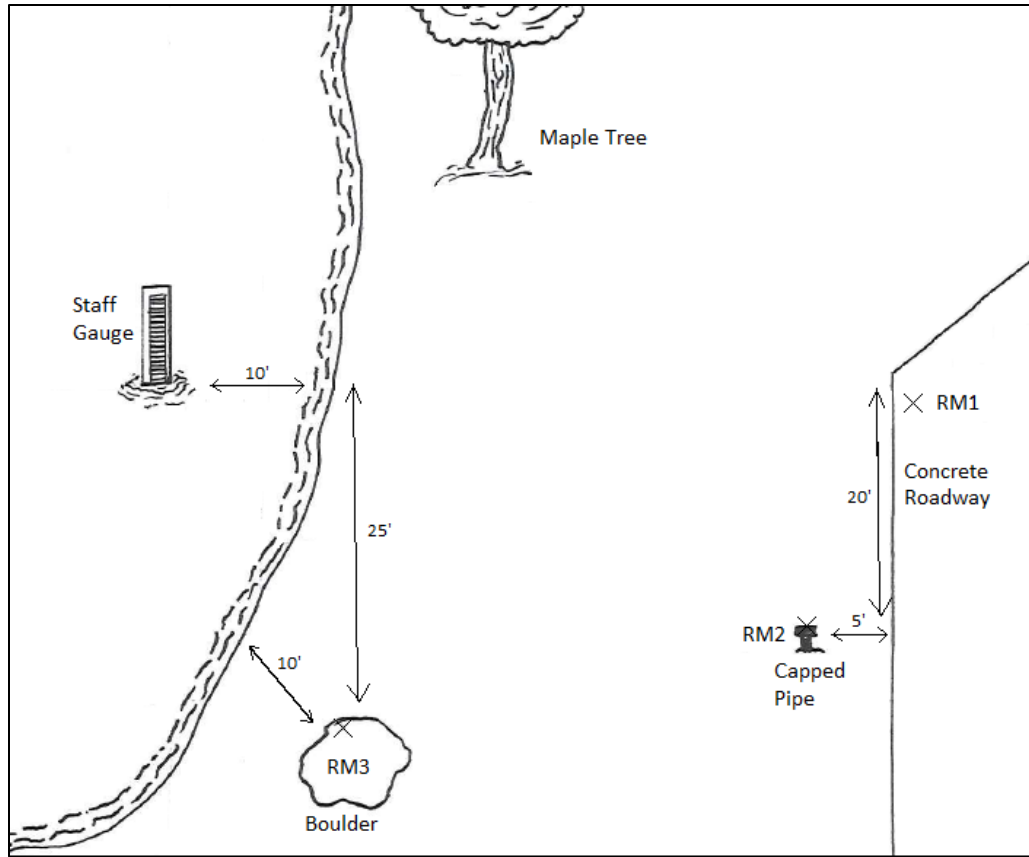

Figure 4. Diagram of the survey site
- b. Sketch the locations of the reference marks in relation to the location of the staff gauge (Figure 4). By clearly documenting both the location of the reference marks and any relevant site features, it will be easy to locate them for subsequent surveys.